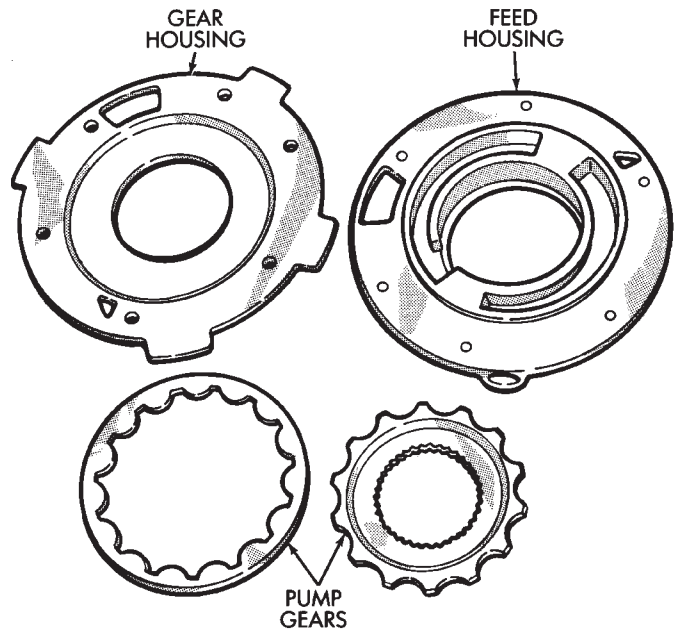

Fig. 58 Oil Pump Components
(41) If new oil pump is being installed, proceed to step (43). If original pump was only disassembled for cleaning and inspection, proceed to step (42).
(42) Assemble oil pump. Lubricate and install two gears in gear housing. Align and install feed housing on gear housing (Fig. 58). Install and tighten oil pump screws to 2 N·m (14 in. lbs.) torque.